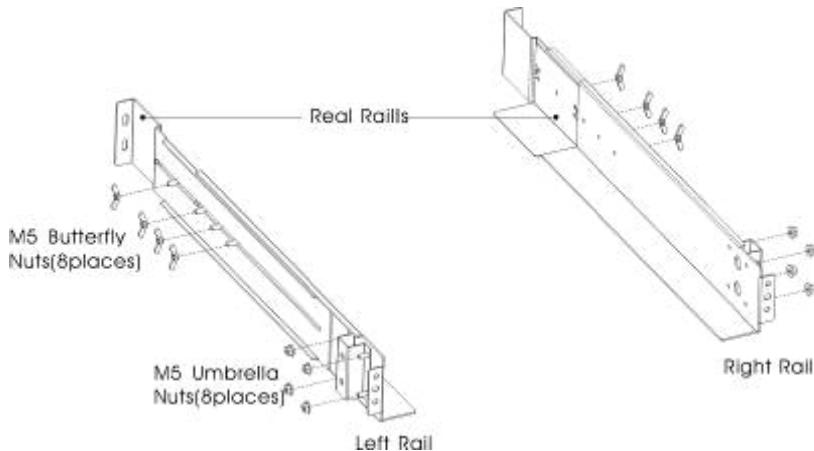

Figure 1 Securing the Rails
- a) Assemble the left and right rails to the rear rails as shown in Figure1. Do not tighten the screws.
- c) Tighten four M5 Umbrella Nuts in the side of rail assembly (see Figure 1).